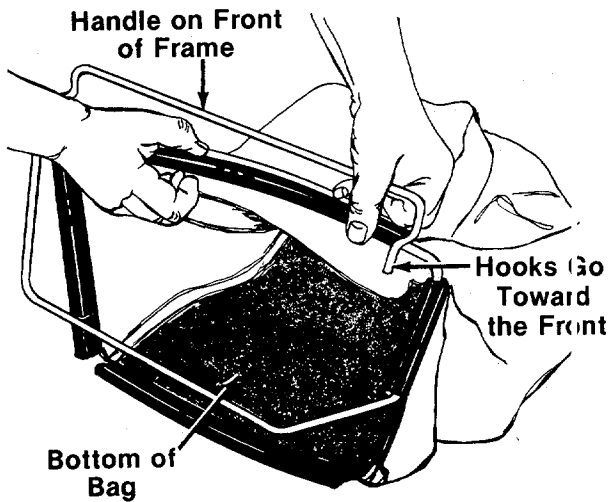

FIGURE 14.
- Place bag over frame (black plastic side is the bottom of bag). Handle on frame goes to the top of bag. Hooks go toward the front. See figure 14.
- Secure bag to frame by slipping plastic channels on bag over frame. See figure 14.